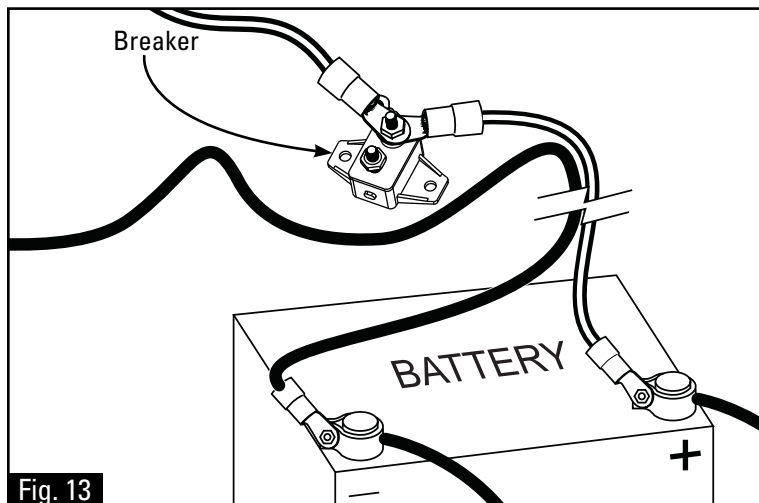

Fig. 13
Step 12: Motor Check Out Procedure (Fig. 13)